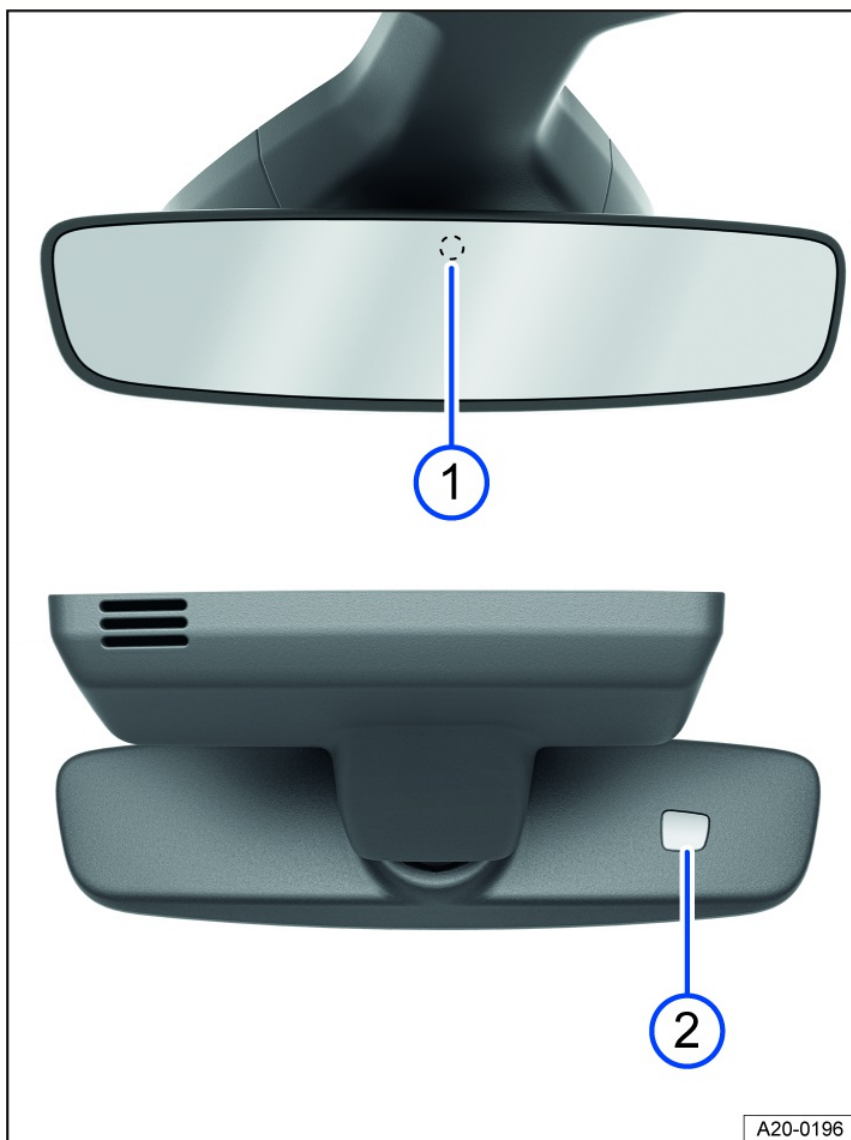

Fig. 84 On the windshield: automatic dimming interior rearview mirror.
When the ignition is on, the sensors measure the amount of light entering from the rear fig. 84 ① and from the front ②.